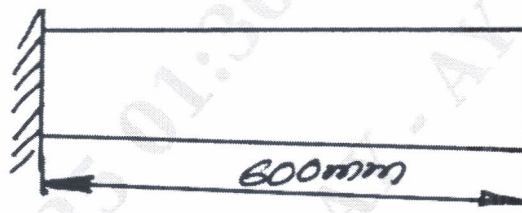

Fig Q10(c)
- c. Determine the natural frequency of vibration of the cantilever beam shown in Fig Q10(c). Take  $E = 200 \text{ GPa}$ ,  $\rho = 7840 \text{ Kg/m}^3$ ,  $I = 2000 \text{ mm}^4$ ,  $A = 240 \text{ mm}^2$ .